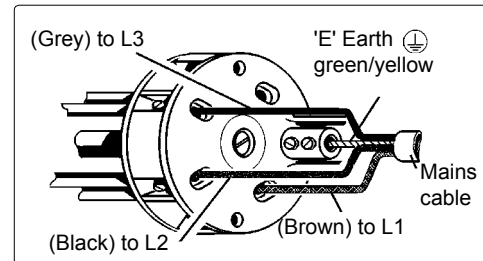

fig.2
- 1.2.1 This product must be fitted with a 3 phase plug wired as illustration in (fig.2), wired to an appropriately fused supply. Connect GREEN/YELLOW wire to Earth 'E'